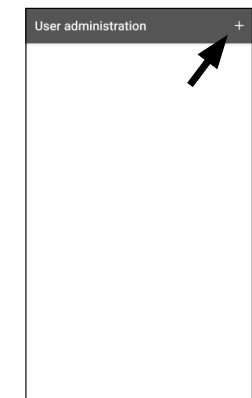

Fig. 30
- ④ A list of users that have already been created is displayed. Create a new user by tapping on the "+" in the top right-hand corner (Fig. 30).
- Enter the first name and surname of the user you wish to register (I) (Fig. 30).